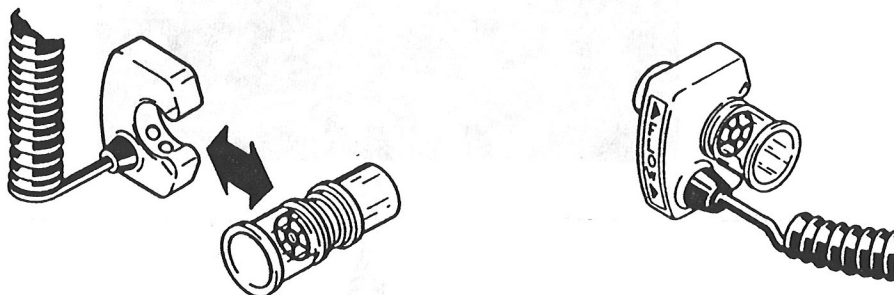

Figure 2-14
3. Clip the sensor over the cartridge. The arrows on the sensor must point in the direction of gas flow during expiration; the arrows must point toward the absorber and away from the patient. (See figure 2-14.)